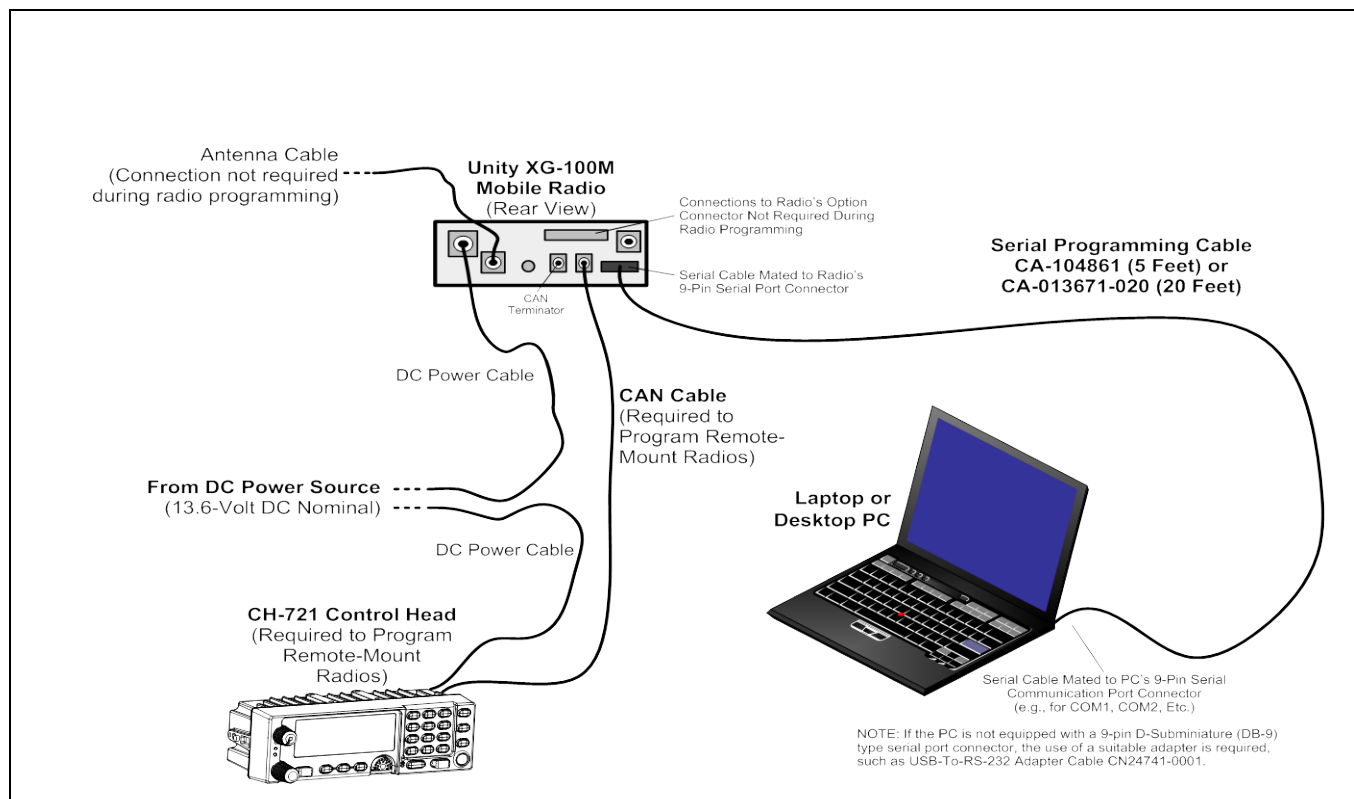

Figure 10-1: Cable Connections for Radio Programming via an RS-232C Serial Cable Link
3. As illustrated in Figure 10-1, mate the cable's male 9-pin connector to the female 9-pin connector on the rear of the radio. Lightly tighten the two (2) jackscrews.
1. As illustrated in Figure 10-1, connect the radio to a personal computer with the Radio Personality Manager (RPM) programming software installed on it. Use Serial Programming Cable CA-104861 (5 feet long) or Serial Data Cable CA-013671-020 (20 feet long), or equivalent, to connect the computer's serial port to the 9-pin (DB-9) connector on the rear of the radio.